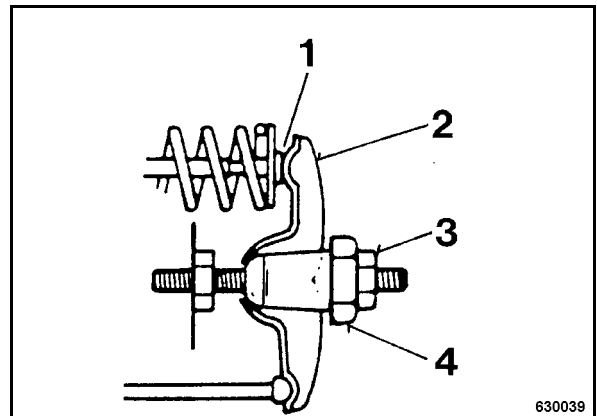

Fig. 54
- Hold hexagon nut (4) (Fig. 54) on the rocker lever and loosen counter nut (3).
- Adjust hexagon nut (4) on the rocker arm so that the feeler gauge fits between rocker arm and valve shaft (1) with noticeable resistance after retightening counter nut (3).